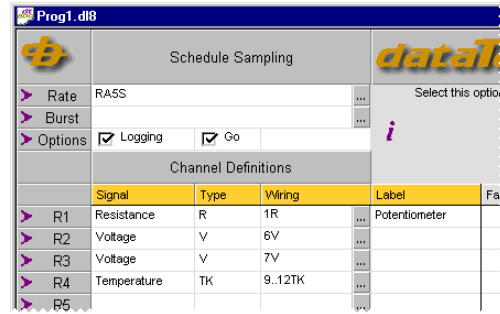

FIGURE 60 More channels
Channel 6's channel definition (R2) should look like Figure 60 on page 58.
- Leave the **Differential +/-** configuration selected and click **OK**. Channel 7's channel definition (R3) should look like Figure 60.
Row 4's channel definition should look like Figure 60.